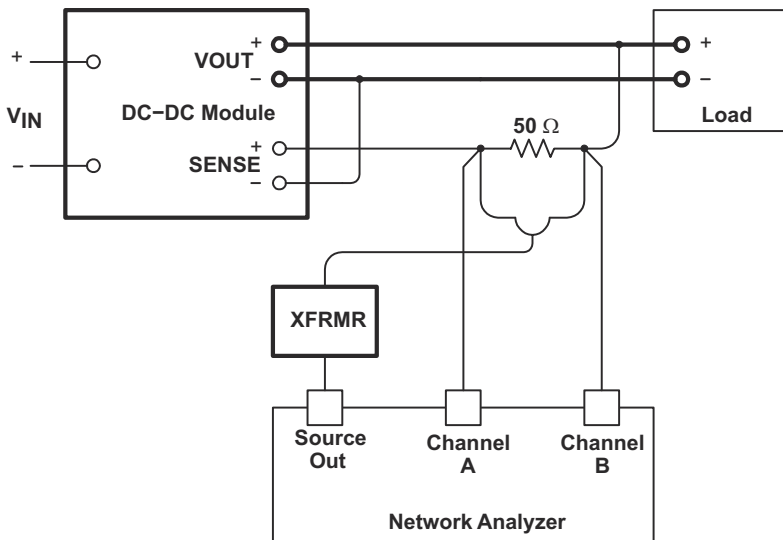
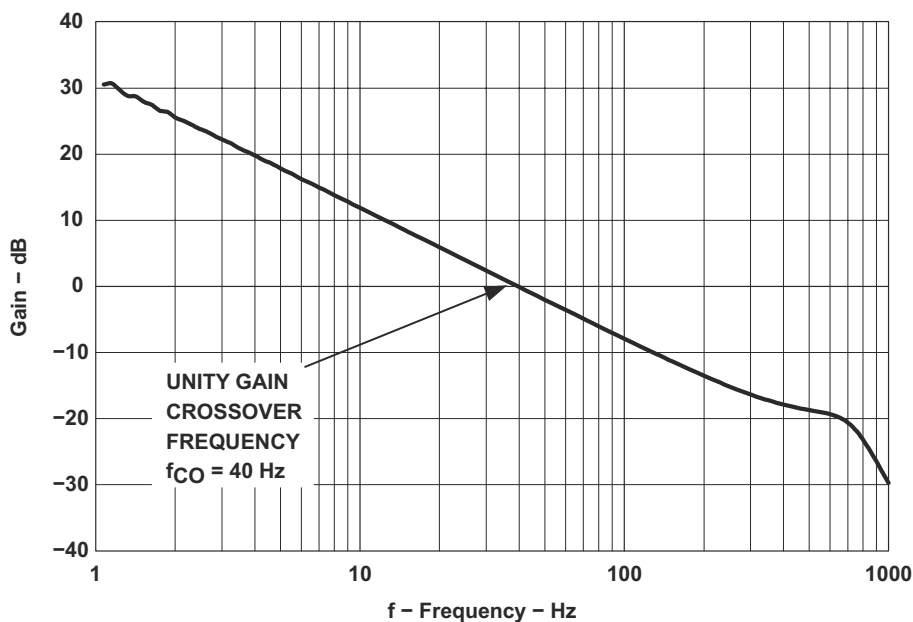

图 7-4. Connection Diagram for Unity-Gain Crossover Frequency Measurement
图 7-5. Power Module Bode Plot
Using the test configuration shown in 图 7-4, measure the unity-gain crossover frequency of each power module to be paralleled. Set the load to the maximum output current ($I_{OUT(max)}$) to be shared by each module. 图 7-5 shows a typical resultant Bode plot. Select the plot with the lowest 0dB crossover frequency and assign that frequency to $f_{CO(module)}$ for design use.
The total load-share loop unity-gain crossover frequency, f_{CO} , must be set at least one decade below the lowest measured crossover frequency of the paralleled modules previously measured, $f_{CO(module)}$ (see 图 7-5). Compensation of the transconductance error amplifier is accomplished by connecting a compensation resistor, R_{EAO} , in series with a capacitor, C_{EAO} , between EAO and GND. Use 方程式 8 and 方程式 13 to calculate the values of these components. C_{EAO} is calculated first.
- $G_{MODULE}(f_{CO})$ is the measured value of the gain (in dB) from 图 7-5, at the targeted load-share crossover frequency.